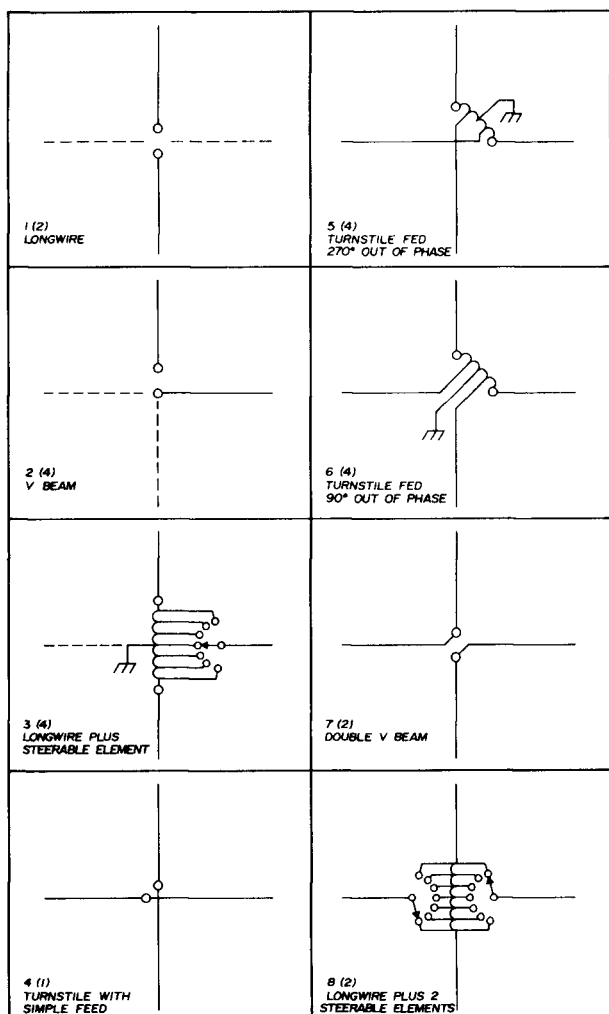

fig. 4. Eight basic antenna designs tested under skip conditions. Numbers in parentheses signify use of additional legs for variations.
The test configurations are shown in fig. 4. Eight basically different electrical designs were used with 23 variations. The large number of variations occurs because it was possible to combine different wires to obtain the same basic electrical design — but in a different direction. For example, antenna 1 has two variations: a north-south and east-west longwire. The number in parenthesis (fig. 4) signifies the number of possible variations. Let's take a look at the test configurations (fig. 4).
**first test series.** A comparison of antennas 1 and 2 (longwire and V-beam, fig. 4) was made. Results were surprising. The V beam outperformed the longwire by a substantial margin (10-20 dB) except on very rare occasions. By comparison the longwire was inferior, which seemed strange in view of its good reputation. Horizontal directional gain didn't appear to be a factor in achieving the superior performance from the V. In fact, a V aimed in the wrong direction frequently was *slightly* better than the "correct" V. The north-east path, which was over somewhat lower ground (not more than 8-10 feet [2.4-3m] elevation difference on flat ground), produced the best results in all directions — probably because of better ground conductivity.
**second test series.** These tests included the longwire plus steerable element (antenna 3 of fig. 4). At the extremes of switch travel a sort of lopsided V is in the circuit, while at the switch center position the antenna becomes a longwire with steerable element grounded. These tests again proved the superiority of the V configuration. Results of these tests ranged from inferior performance at the center switch position to best performance for the "lopsided V," with gradual improvement in between.
**third test series.** In this series I compared the turnstile with simple feed, turnstile with 270° phasing, and turnstile with 90° phasing (antennas 4, 5 and 6 in fig. 4. Antenna 4 has a slight edge over the other two test configurations. It seemed to be a good all-around antenna.
**fourth test series.** Here I tested antennas 2, 4 and 7 (fig. 4); i.e., V beam, turnstile with simple feed, and double V beam. As I appeared to have top performers at this point, I decided to test extensively on 40 as well as 80 meters and to check alternatives on transmit as well as on receive. Some testing was also done on 20 meters.